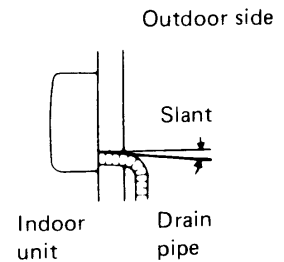

Fig. 17
- Drain piping should be slanted downward to outdoor. Fig. 17